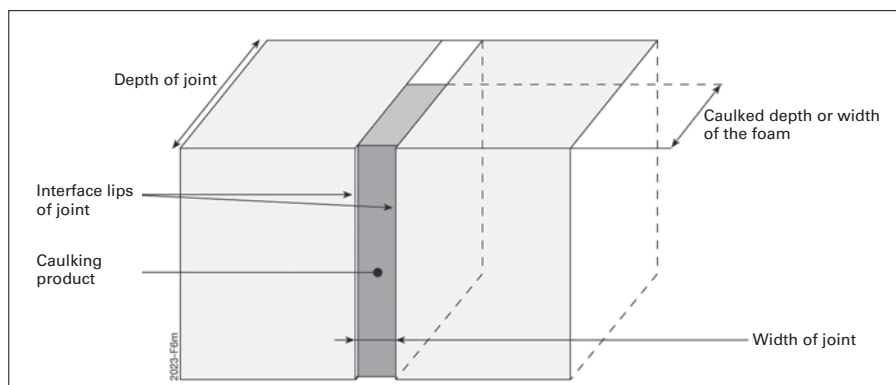

Figure 1: Terminology relating to joints
- Caulked using impregnated foam capable of preventing ingress of water or air, within the limits of foreseeable relative movements (see Figure 1).